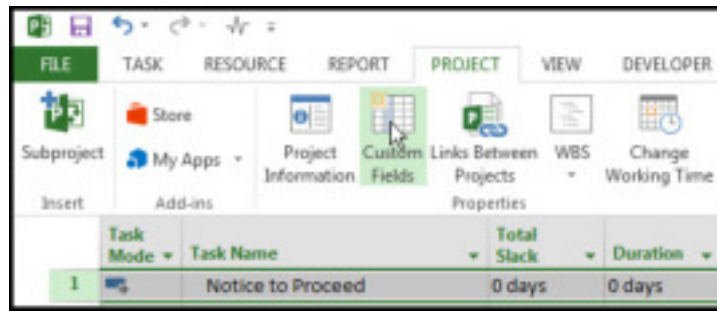

Figure 2
- A. Select the Project tab, Properties ribbon group, and Custom fields, Figure 2.